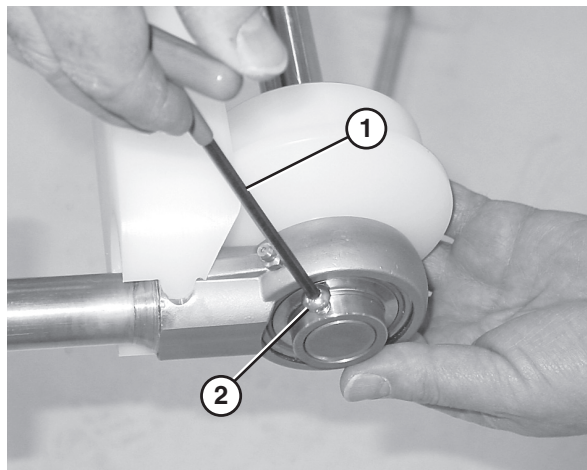

Figure 72
5. Use a hex wrench (**Figure 72, item 1**) to tighten the bearing shaft fasteners (**Figure 72, item 2**) to 54 in•lbs. Check after 24 hours of conveyor use.